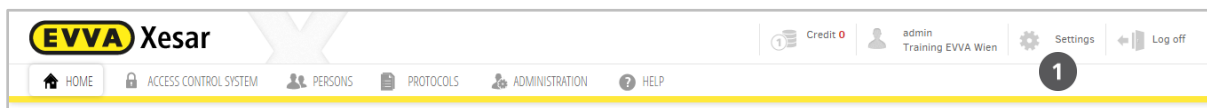

Figure 52: Settings
Click **Settings** ❶ (Figure 52: Settings) to open the corresponding menu.